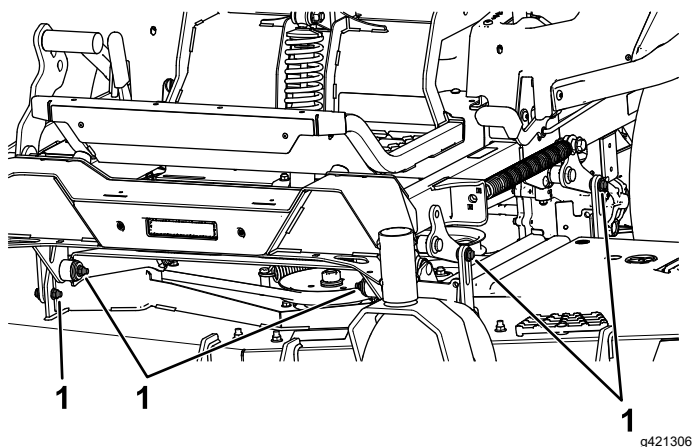

Figure 106
7. Remove and retain the bolts and nuts on both sides of the machine (Figure 106).